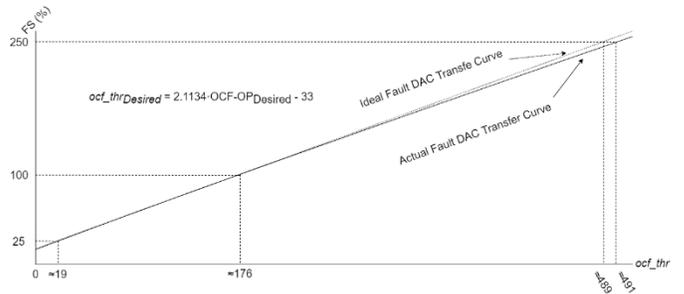

Figure 25: OCF DAC Nonidealities, INL Error
The second method attempts to mitigate average DAC INL error. The equation in Figure 25 will give the desired average INL compensated ocf\_thr code. Note that this only compensates for
the average INL error measured in production. Measuring after programming and reprogramming as needed is the most accurate way to mitigate the device specific INL error. A visual representation and equations of the INL compensation and impact on the OCF(OP) are shown in Figure 25.